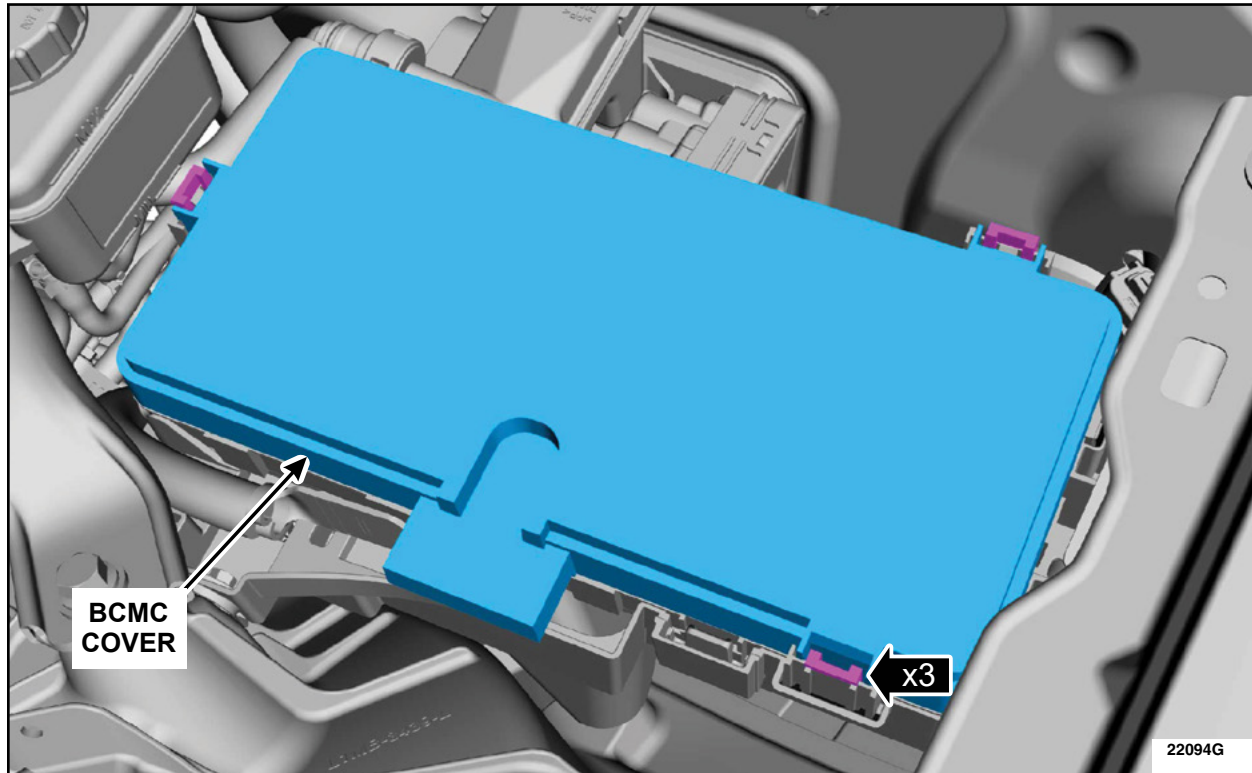

FIGURE 23
30. Install the BCMC cover and engage the tabs. See Figure 23.